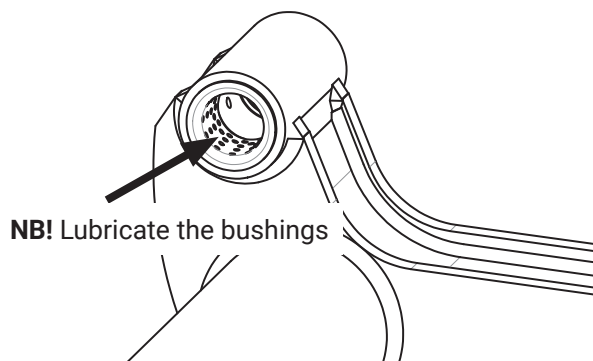

Figure 33. Take care to provide initial lubrication to the metal bushings
2. Lubricate the metal bushings on the upper bearing of the arms. Make sure the small holes on the inside of the bushings are filled with grease. See Figure 33.